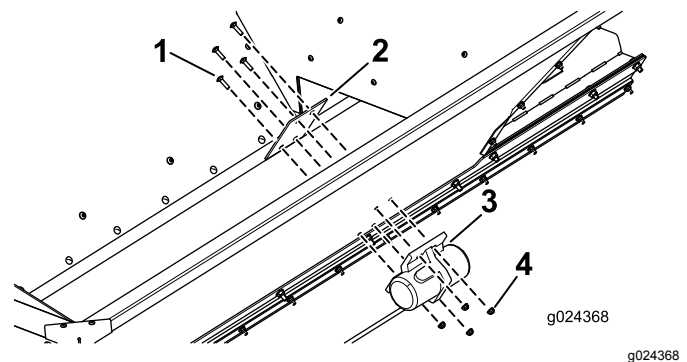

Figure 19
2. Secure the mounting plate and the vibrator to the vehicle using the 4 carriage bolts and 4 nuts as shown in Figure 19.